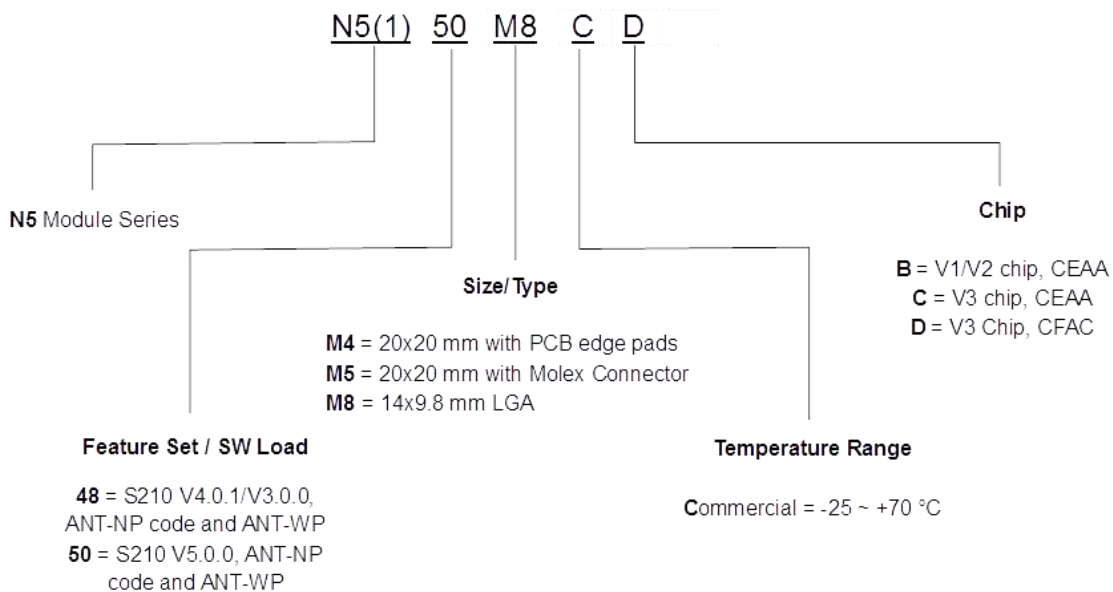

Figure 1: N5 ANT SoC Module Series Nomenclature
- Figure 1: N5 ANT SoC Module Series Nomenclature 7